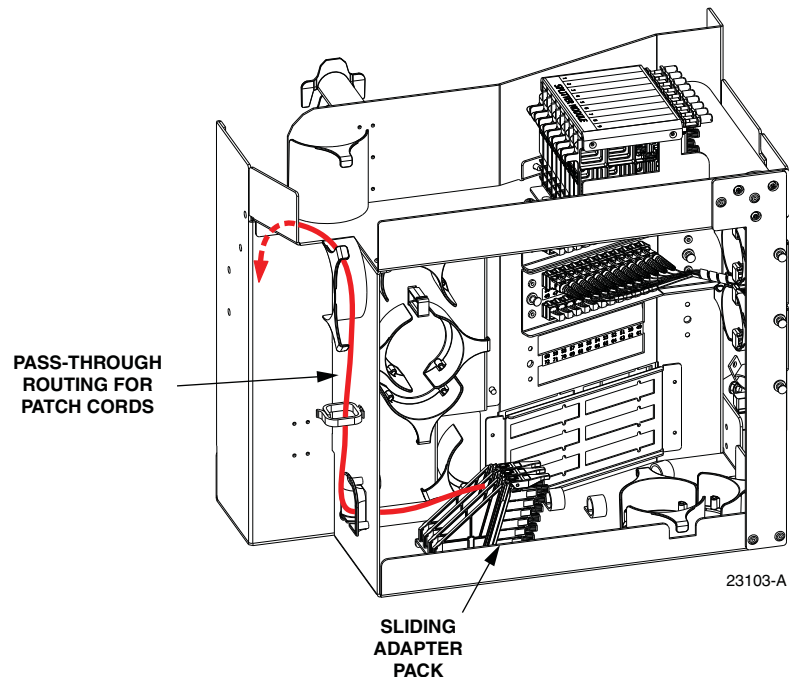

Figure 69. Routing Pass-Through Patch Cord From Sliding Adapter Pack
10. Route the pass-through patch cord to the front side of the swingframe as shown in Figure 69.